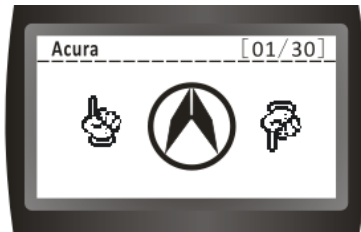

Figure 5
2. After a few seconds, it will switch to: “carmaker select”: (Figure 5)